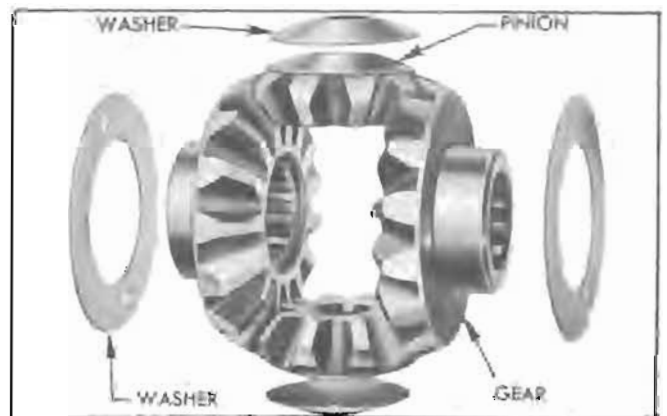

Figure 5-29—Differential Side Gears, Pinions, and Thrust Washers
13. Install differential side gears and thrust washers in case. See figure 5-29.